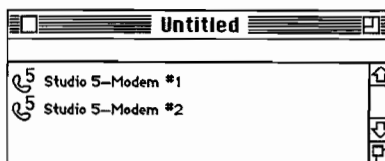

Figure 14-11: Studio Setup for Network of Figure 14-10
- Choose **New Studio Setup** from the **File** menu and search the Macintosh Modem port. Your new Studio Setup document contains an icon for each Studio 5 in your network (see Figure 14-11).